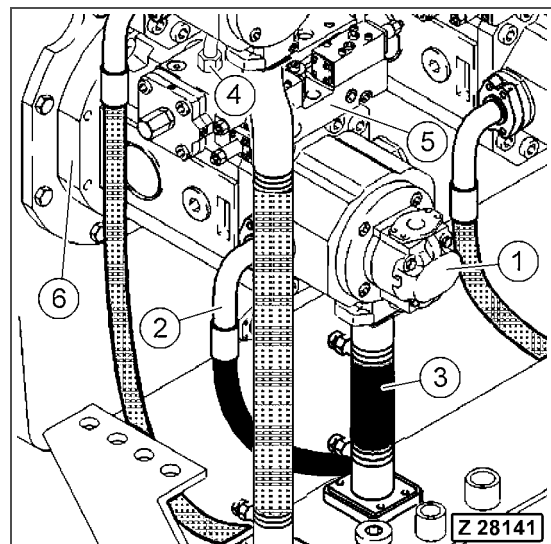

Fig. 3-32
3. Remove all hoses from the hydraulic pilot oil pump (Fig. 3-32, Pos. 1), refer to section 3.5.4.1 on page 3-41.
4. Disconnect the high pressure hose (Fig. 3-32, Pos. 2) and the suction hose (Fig. 3-32, Pos. 3) from the main pump assembly.
5. Disconnect the load sensing hose (Fig. 3-32, Pos. 4) and two control hoses from the control block (Fig. 3-32, Pos. 5).
6. Disconnect the bearing flushing/lubrication hose from the right side of pump mounting flange (Fig. 3-32, Pos. 6).